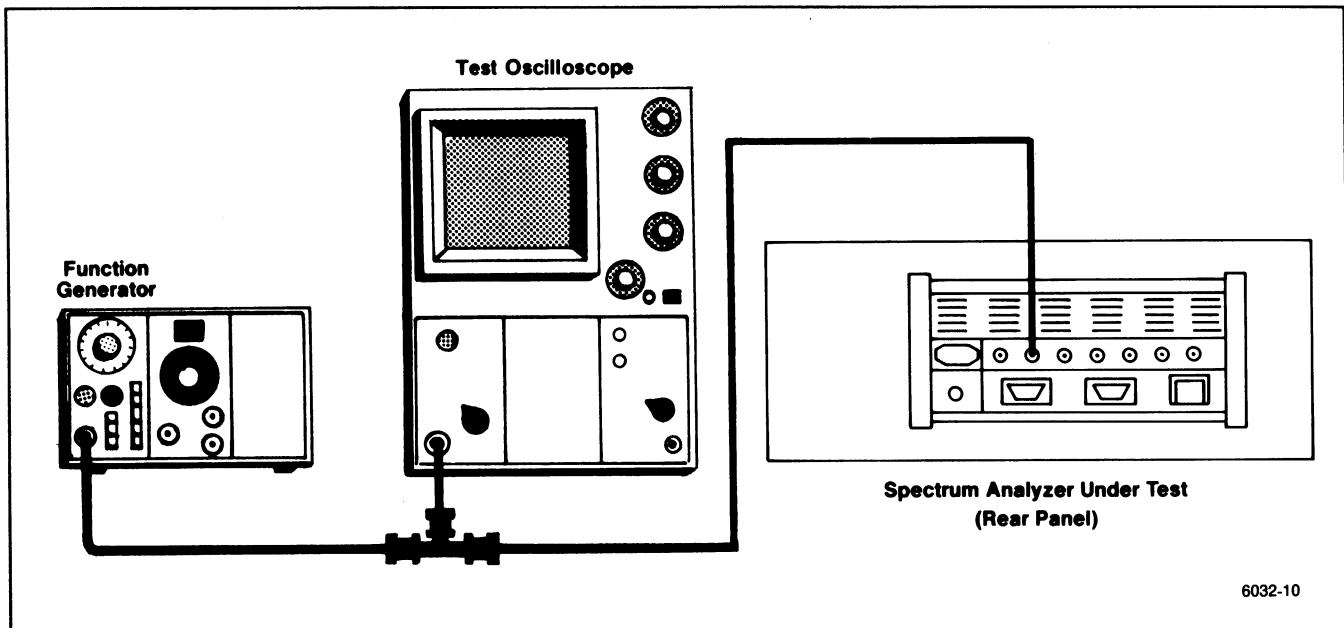

Figure 4-21. Test equipment setup for checking external triggering and horizontal input characteristics.
h. Reconnect the test equipment as shown in Figure 4-21.
a. Connect the test equipment as shown in Figure 4-21. Set the Spectrum Analyzer controls as follows: